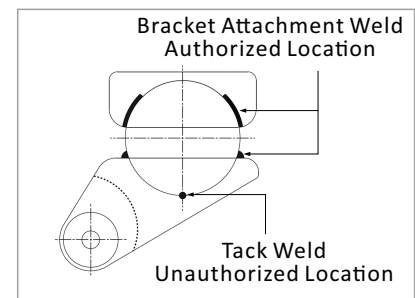

FIGURE 18
- » Weld location requirements in this section apply to all welds. In some instances, axles have been found with bracket attachment welds in authorized locations, but with tack welds in unauthorized locations. Neither tack welds nor brackets attachment welds are allowed in unauthorized locations. This can cause a material change that can reduce axle fatigue life. (Figure 18)